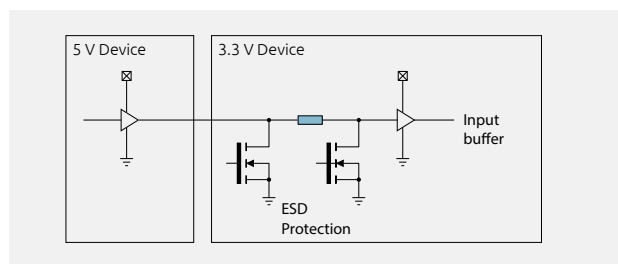

Fig. 3 ESD protected inputs simplified schematics
- › ESD protected to enable high to low voltage translations (Fig. 3)